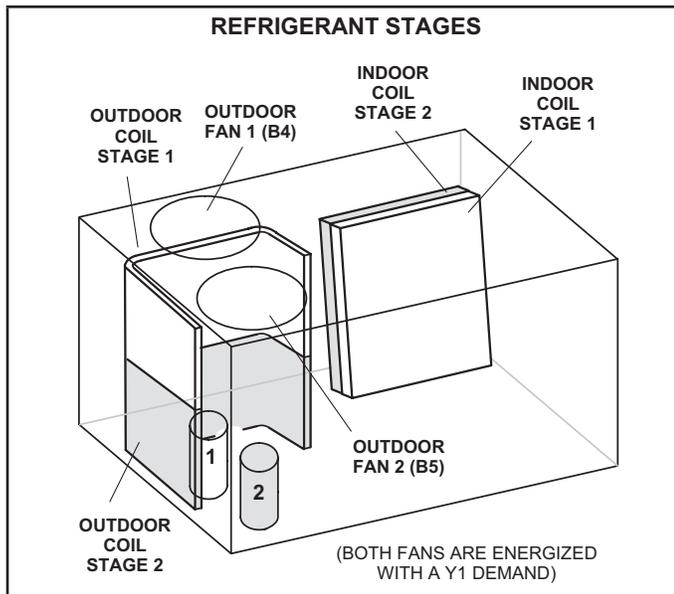

FIGURE 18
- 3 - Units contain two refrigerant circuits or stages. See FIGURE 18.